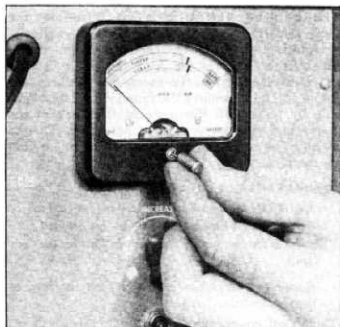

Fig. 69—Checking Needle Zero Line
5. Turn zero corrector on face of meter until meter pointer is on zero set line (fig. 69).